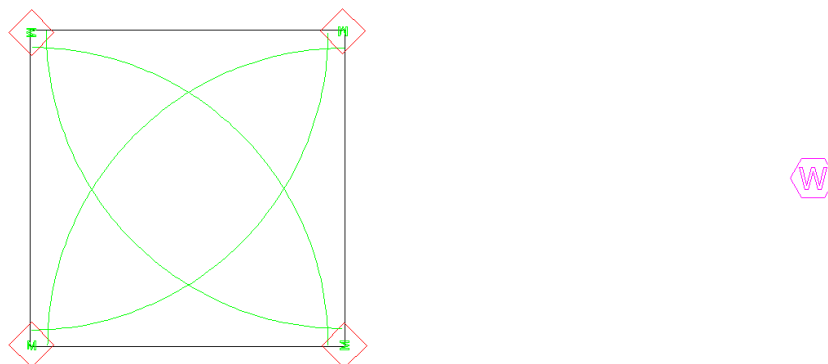

Figure 4-8
9. Place an outlet at each corner of the square by left-clicking. You will notice that the arcs are not oriented to water inside the square. We will manually fix this by selecting *Modify/Change* and clicking on a wetted arc. In the dialog change the “Start Angle” to be **0, 90, 180** or **270** as required (bottom left = 0, top left = 270, top right = 180 and bottom right = 90) as in Figure 4-8. Click [OK].